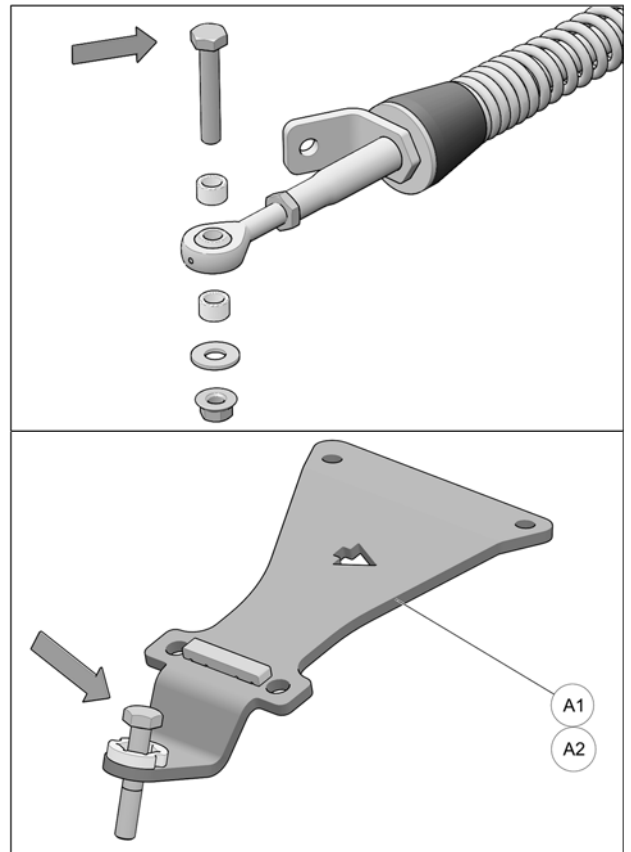

Fig. 25
13. Remove bolt, washer and bushings from front stabilizing rod end and insert bolt in front anchor bracket (A1-A2) as shown in Fig. 25